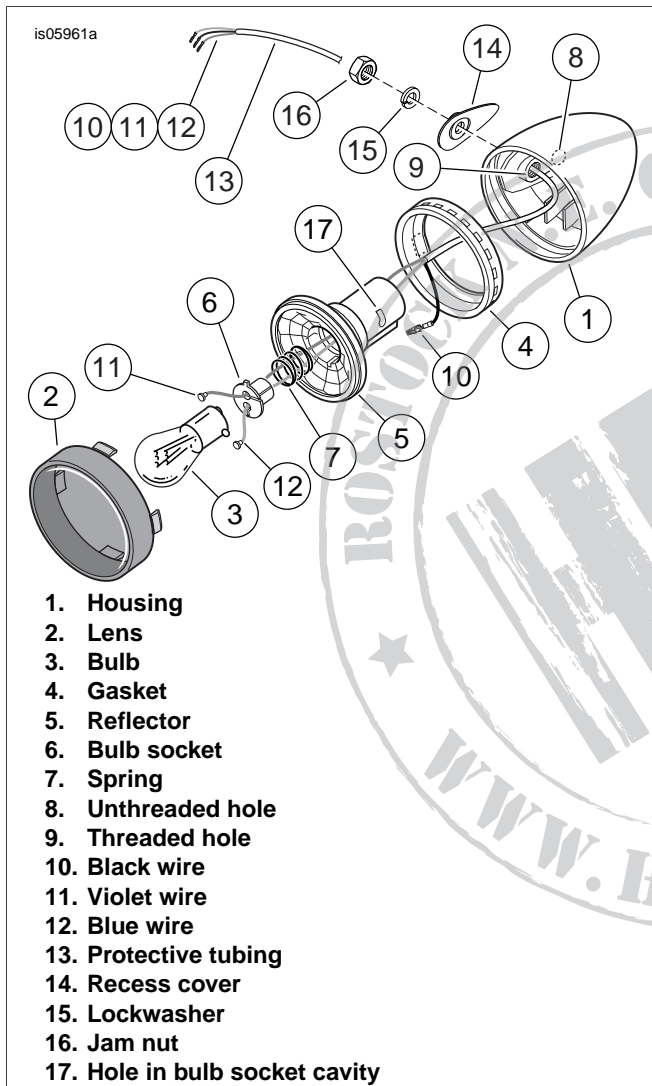

Figure 1. Stop/Tail/Turn Signal Lamp (Right Side Shown)
1. See Figure 1. Insert the blade of a small screwdriver into the slot at the bottom of the lens (2) of one STT lamp, and twist to unsnap the lens from the housing (1).